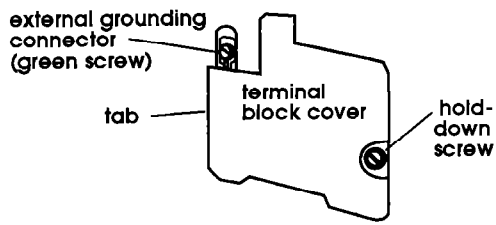

Figure 12
6. Insert tab of terminal block cover into slot of the dryer rear panel (Figure 12). Secure cover with hold-down screw.
2. Remove hold-down screw and terminal block cover (Figure 12).
8. Insert tab of terminal block cover into slot of the dryer rear panel (Figure 12). Secure cover with hold-down screw.
7. Insert tab of terminal block cover into slot of the dryer rear panel (Figure 12). Secure cover with hold-down screw.